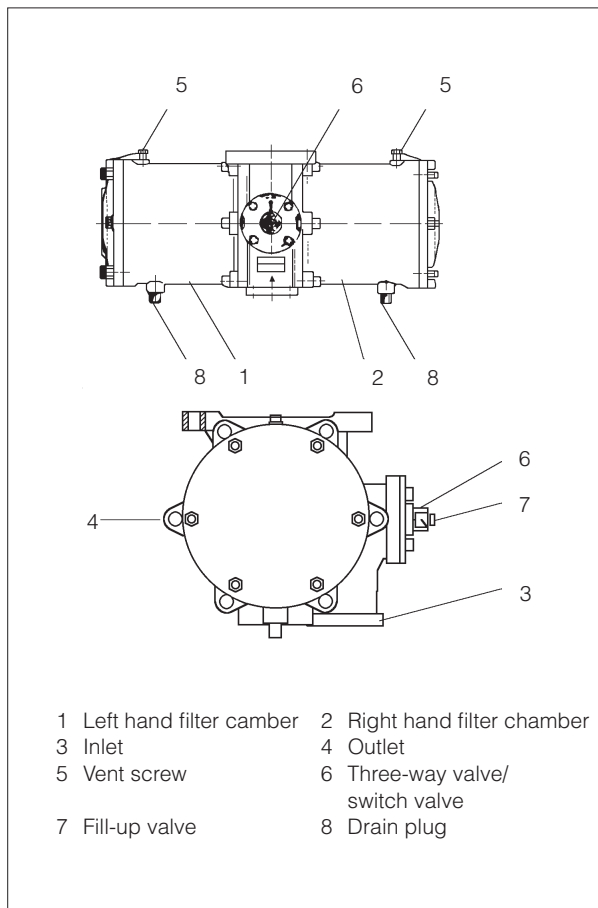

Fig 2.
1) Turn the three-way valve, see fig 2, into the position setting the stand-by filter chamber in operation and the filter chamber requiring service out of operation.
2) Open the vent screw (5) on the top of the filter to get the pressure out of the filter half.
3) Open the drain plug (8) under the filter housing and drain off oil.